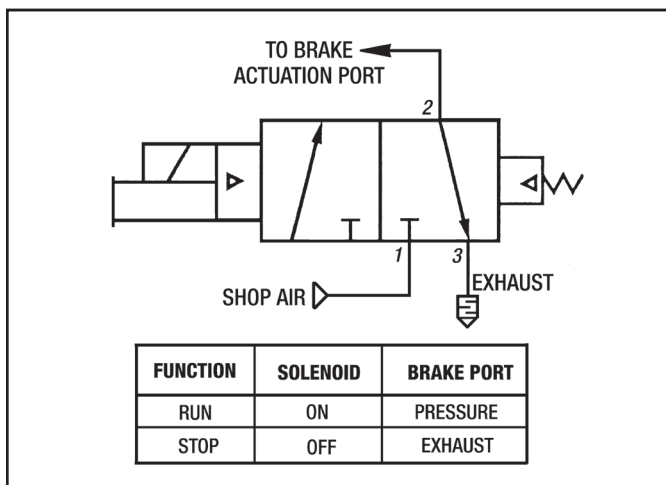

Figure 11 - Control Valve Schematic and Logic
5. Install appropriate external pneumatic valving (See *Figure 11* for Control Valve Schematic and Logic).